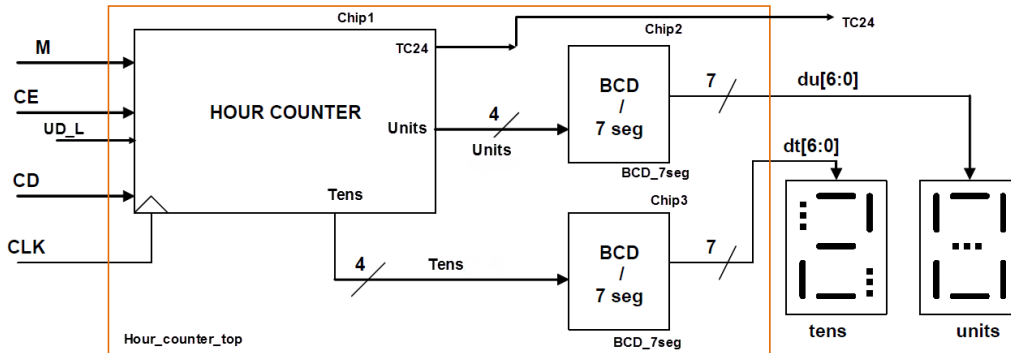

Fig. 52
Our goal is to design an hour counter to be used in a real-time clock device to count the hours in modes 0 – 12 ($M = '1'$) and 0 -24 ($M = '0'$). The Fig. 52 represents the schematic diagram of the application when connected to 7-segment digits.
5. How many VHDL files will be required to complete the *Hour_counter_top* in Fig. 52?
6. Find the *Counter_mod16.vhd* file and translate the hierarchical schematic in Fig. 52 to VHDL.